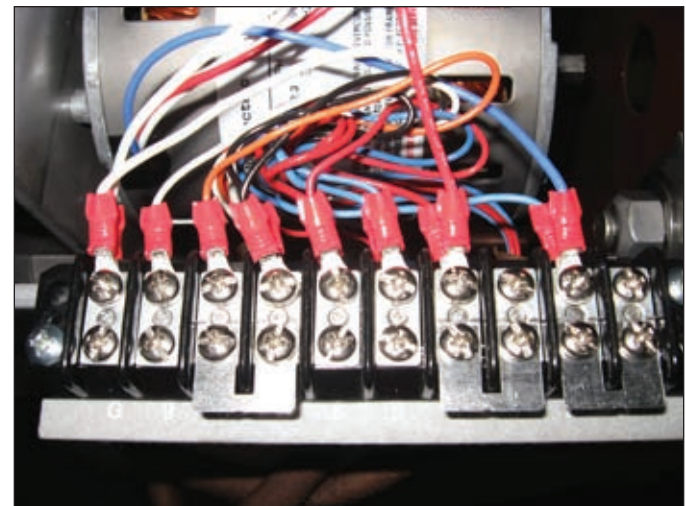

Figure 16.
14. The motor wire connection points are as follows: the white wire connects to terminal "G", the red wire connects to terminal #4 and the blue wire connects to terminal #2. Trim the motor wires with a diagonal cutter, allowing an extra two inches of wire between the motor and the connection points. Strip 1/4 inch (7mm) of wire insulation from the end of each wire. Crimp a supplied ring tongue connector to the end of each wire, making sure the wire is fully inserted into the ring tongue connector. The wire should not stick out of the connector by more than 1/16 (1.5mm) of an inch. Attach the ring tongues to the motor connection points on the terminal board as described above. See Figure 16.